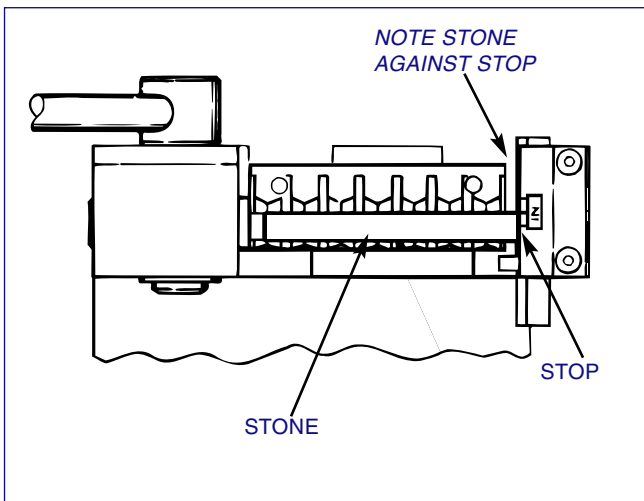

FIGURE 3-12, Install Stone
5. Place Stone in Master Stoneholder (*see Figure 3-12*). Lugs on stone sides should fit into cross slots of Master Stoneholder.